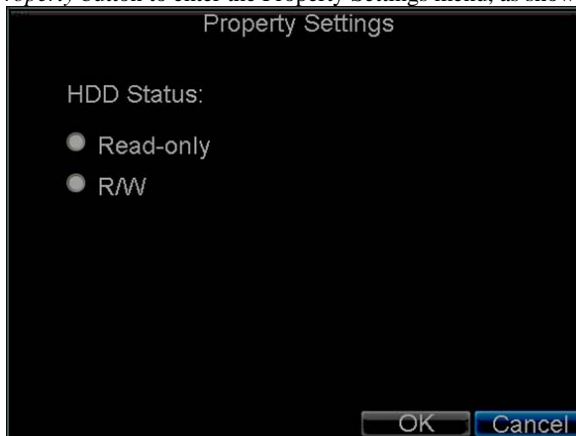

Figure 3. HDD Property Settings Menu
3. Select the *Property* button to enter the Property Settings menu, as shown in Figure 3.